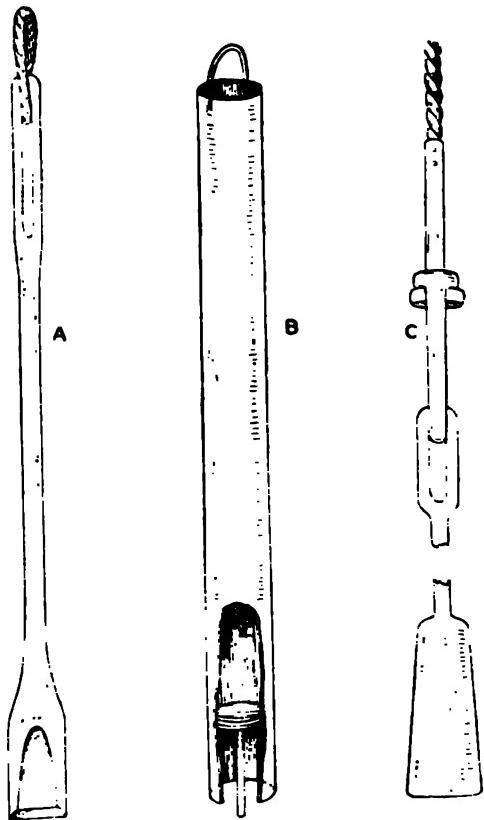

Fig. 1—Drilling Tools
In Fig. 1 is shown some tools the writer used successfully to drill a well 34 ft. in depth. Any blacksmith can make them. To a bar of iron about 1 in. in diameter and 5 ft. long weld enough steel to form a bit. This bit (A) should be fashioned as nearly as possible like the regular bits used on heavy drilling tools. The face of the bit, or the gauge, can be about  $2\frac{1}{2}$  in. for starting the well, then reduced in gauge after the well is cased. A sand pump or bailer shown at B is necessary. It is made of a piece of  $1\frac{1}{2}$ -in. tin pipe about 3 ft. long with a heavy wire bent in the form of a bail and fastened in one end. A dart valve is placed in the other end. It is made by driving a wooden ring or core into the pipe so it will act as a valve seat for a piece of leather, through which a large nail or spike about 3 in. long has been driven. The valve seat is held in place by several small nails or tacks driven through the tin. In case the tin pipe cannot be procured, 1-in. iron pipe may be used. Manila rope,  $\frac{1}{4}$  to  $\frac{3}{8}$  in., is heavy enough to use with the bailer. For the drilling tools use  $\frac{3}{8}$ -in. or  $\frac{1}{2}$ -in. rope.